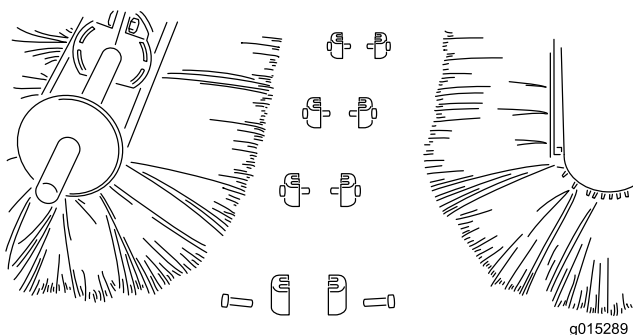

Figure 30
3. Separate the brush halves and discard the damaged section(s) (Figure 30).